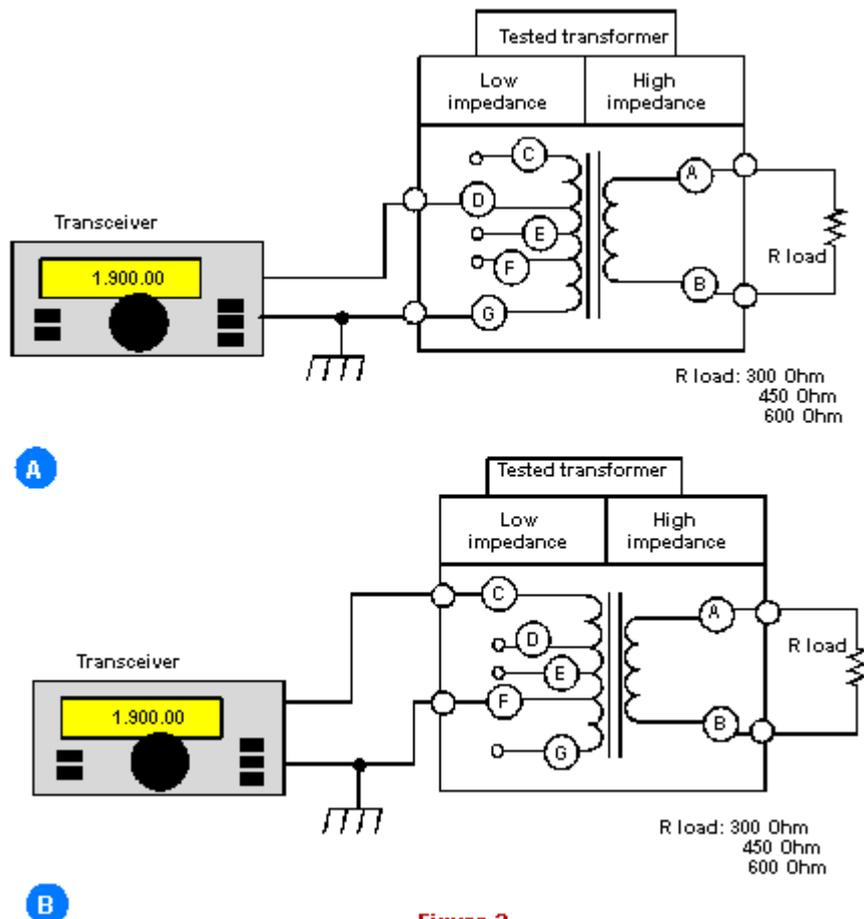
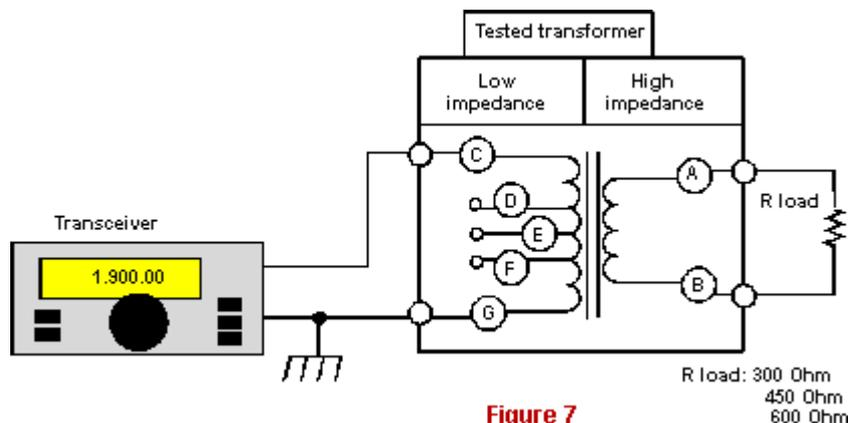
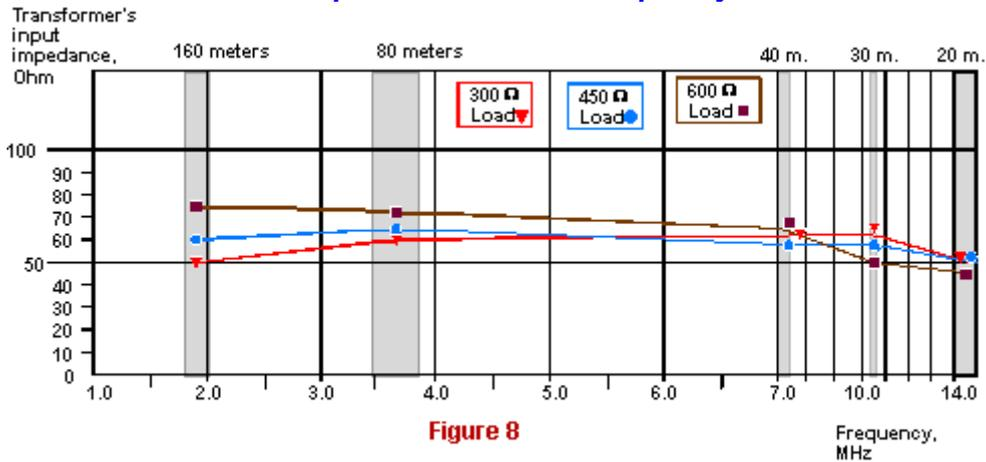
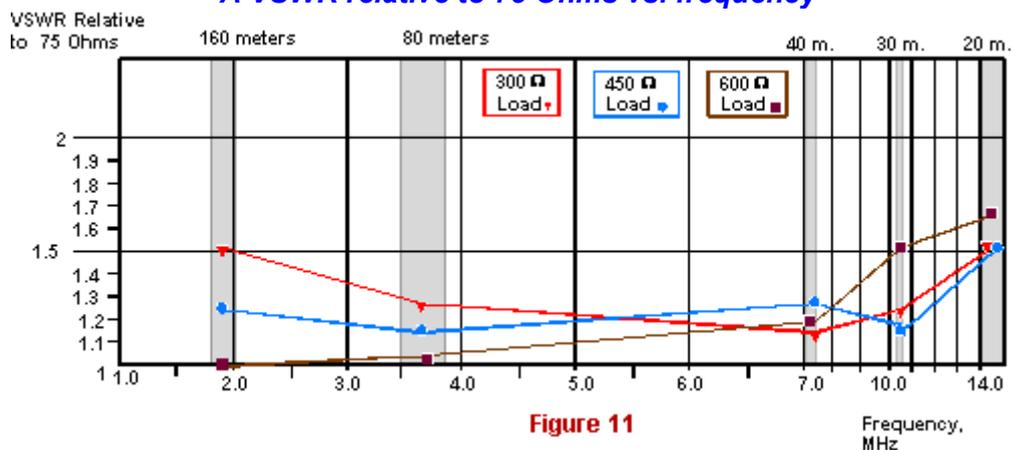

Figure 3
Figure 7
Figure 8
Figure 11
Let's begin with the best connection. AT- 33T transformer works quite well as an RF transformer while its low- voltage winding with summary voltage of 17 volts serves as an input winding. **Fig. 3** shows the connection. Mind, there are two almost equal connections, bottom (points **D- G, Fig. 3A**),
The most important parameter of any RF transformer is its efficiency. This RF transformer (Fig. 3) has a high efficiency only on ranges of 160 and 80 meters. The efficiency falls up to 60-35 percent (it depends on the
Conclusion for the connection shown in Fig. 3: The transformer can be used both in a transmission and reception mode on ranges of 160 and 80 meters with the transformer loaded to 450 or 600 Ohms. (An antenna Beverage or T2FD can be such a load.) The maximum of an RF power going to the transformer must be limited to 60 watts on the ranges. A 50-Ohm coaxial cable is to be preferred to use.
AT- 33T transformer works well as a RF transformer when its low- voltage winding with summary voltage of 24 volts serves as an input winding. Fig. 7 shows the connection.
- An input resistance vs. frequency (Fig. 8),
As it was mentioned above, the efficiency is the most important parameter of any RF transformer. The transformer has rather high efficiency and a small VSWR on a range of 160 meters while this one is loaded to 450 or 600 Ohms. As for a range of 80 meters the RF transformer shown in Fig. 7 has less efficiency and higher input resistance compared to the RF transformer shown in Fig. 3. The efficiency falls down to 50-37 percent (it depends on the transformer's load) on a range of 40 meters. As for a range of 30 meters the efficiency is 42 percent while the transformer is loaded to 600 Ohms. It means that more than half of an RF power going to the transformer heats its core but does not go to an
Fig. 8 shows that the RF transformer (Fig. 7) has a high input resistance. So it is wise to use the transformer together with a 75-Ohm coaxial cable because a VSWR relative to 75 Ohms is less than a VSWR relative to 50 Ohms. Tab. 7 shows a VSWR relative to 75 Ohms vs. frequency while the transformer is loaded to three different loads - 300, 450 or 600 Ohms. Using data from Tab. 7, I made diagrams for three transformer's loads. Fig. 11 shows the curves.
Conclusion for the connection shown in Fig. 7: The transformer can be used both in a transmission and reception mode on a range of 160 meters with the transformer loaded to 450 or 600 Ohms. (An antenna Beverage or T2FD can be such a load.) A 75-Ohm coaxial cable is to be preferred to use while the transformer loaded to 600 Ohms and a 50-Ohm coaxial cable is to be preferred to use with the transformer loaded to 450 Ohms. The maximum of a RF power going to the transformer must be limited to 60 watts on a range of 160 meters. www.antentop.bel.ru